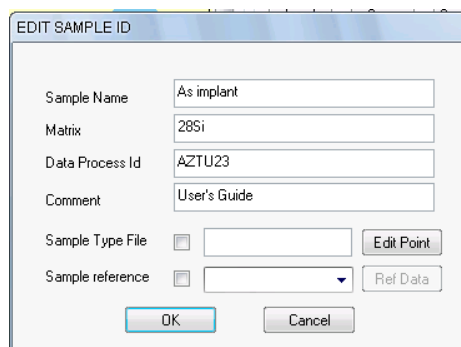

Figure 182: The Edit Sample ID dialog box
- **Edit sample:** This command opens the dialog box used to edit the Sample ID and associated parameters. (Figure 182)